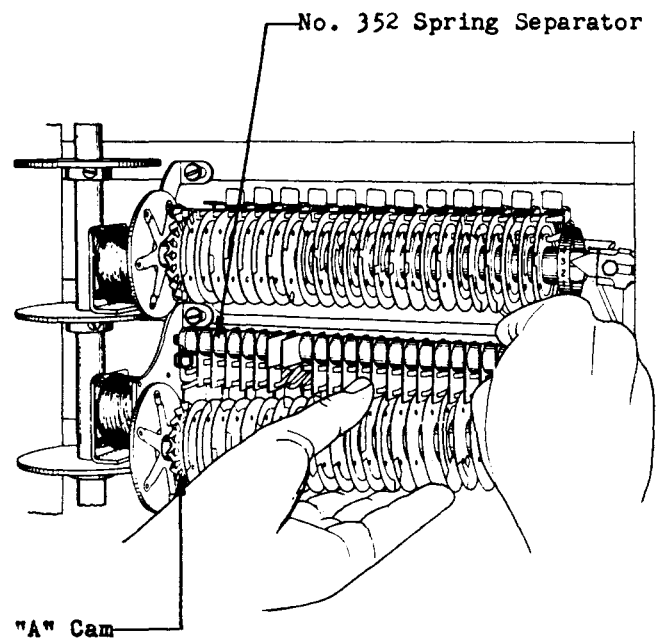

Fig. 17 - Method of Replacing a Sequence Switch Camshaft Assembly
3.40 Place the camshaft assembly in the sequence switch frame in such a position that the cams are directly below their associated springs. Raise the right end of the assembly and place the cams against the left sides of the insulators. Hold the spring separator with one hand and with the other hand exert a pressure to the right on the camshaft assembly so that the cams bear against the insulators of the separator as shown in Fig. 17 at the same time rotating the camshaft assembly in the direction of normal rotation and keeping the right end of the camshaft in front of the bearing pin. Raise the left end of the camshaft assembly until all of the cams have entered between their respective springs. Push the camshaft assembly to the right until the left end of the shaft will slip into its bearing. If the sequence switch is equipped with non-metallic bearings, in order to avoid damaging the bearing, it is important that the left end of the camshaft be in line with the hole in the bearing before allowing the shaft to come in contact with the bearing. Take care that the "A" spring is not damaged when raising the left end of the camshaft. Then push in the bearing pin at the right end of the shaft. Remove the No. 352 spring separator.